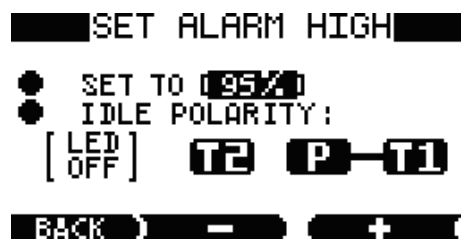

Figure 8: High Alarm Set Value screen
The first menu option allows you to set the value of the high alarm. The set point is given in percent of the span of the unit. To set the value, highlight the numerical value box and press EDIT. Figure 8 below shows the display with the value box selected for setting.
- 2vi) The central and right-hand + and – buttons now enable the limit to be changed in 5% steps (This display screen is shown in Figure 8).
If it is set to LED ON, the High Alarm LED will be on when the indicated concentration is less than the set point and terminal T2 will be connected to the common terminal P. The non-alarm state of the LED and Relay is indicated by the bar connecting either T1 or T2 to P (as shown in Figure 8).
- 4vii) changed in 5% steps (This display screen is shown in Figure 8).